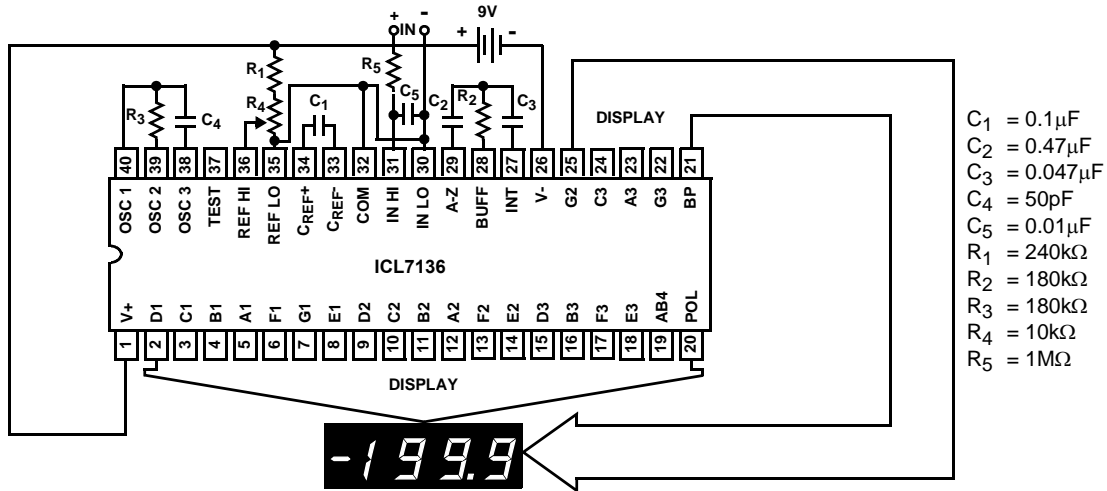

FIGURE 1. ICL7136 TEST CIRCUIT AND TYPICAL APPLICATION WITH LCD DISPLAY COMPONENTS SELECTED FOR 200mV FULL SCALE
3. Unless otherwise noted, specifications apply to the ICL7136 at $T_A = 25^\circ\text{C}$, $f_{\text{CLOCK}} = 48\text{kHz}$. ICL7136 is tested in the circuit of Figure 1.